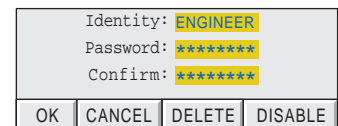

Figure 4.4.3.2b ID Edit page
- 2 Touch the word ENGINEER in the Identity field of the resulting dialogue box (figure 4.4.3.2b).